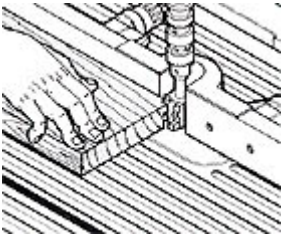

Fig. 1 Cutting glue edge.
2. Since you will likely use several pieces of stock glued together for the tabletop (M), we suggest cutting the edges of that stock with a very sharp Glue Joint Shaper Cutter (Fig. 1). This gives you a self-aligning, unitized spline/groove combination, increases the gluing surface, and provides a stronger bond. The rough top to be squared later should measure 36" x 19", thus providing ample stock to cut the Drop Leaf joint. Hint: keeping the worktable at waist level makes controlling the workpiece easier.